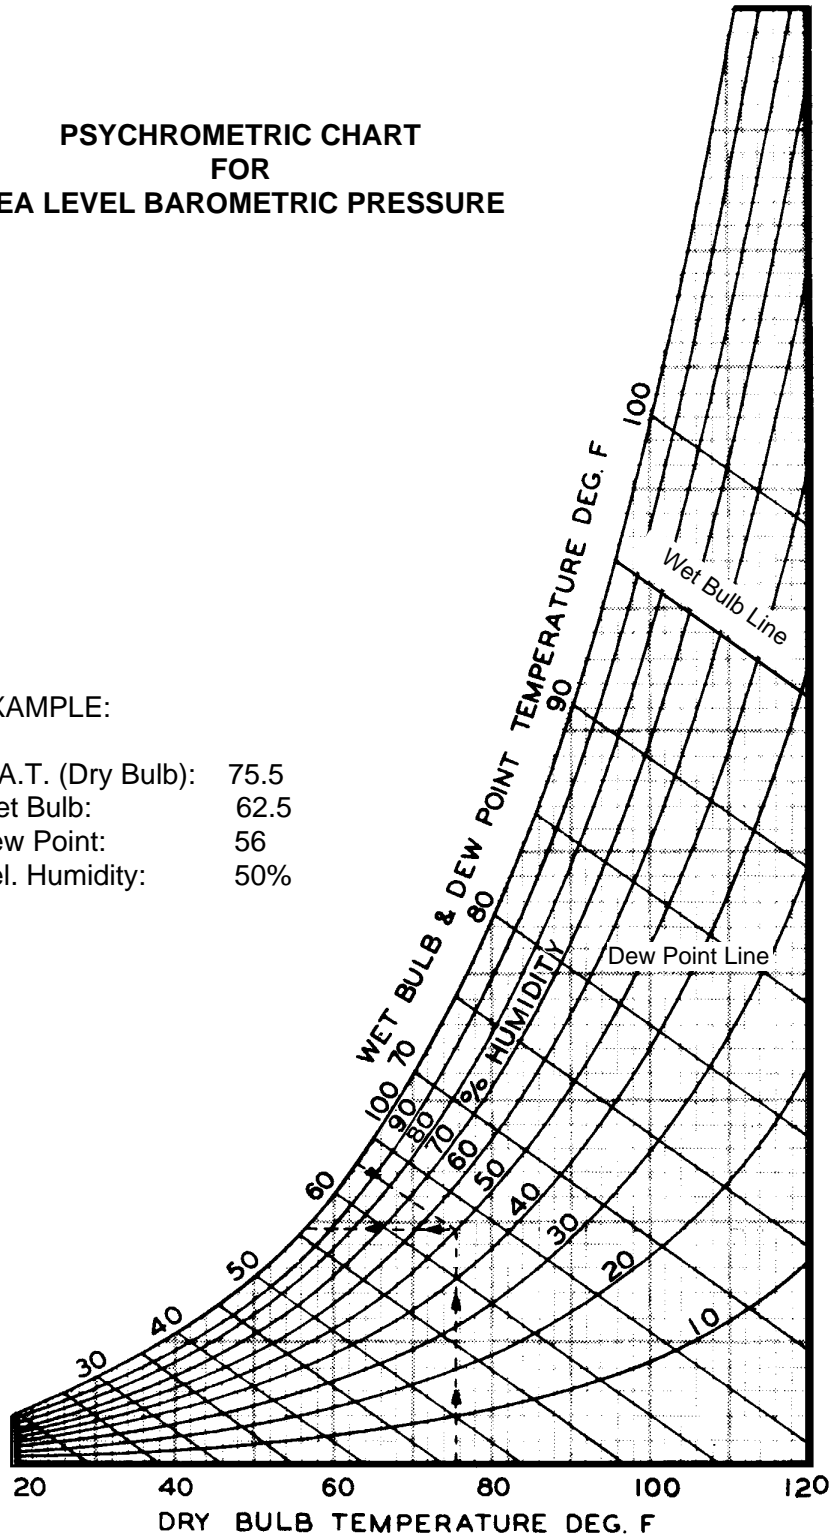

Figure 8-39 Psychrometric Chart
*Relative humidity may be obtained using a psychrometric chart (Figure 8-39) if the outside air temperature, and dew point, or wet bulb are known.*